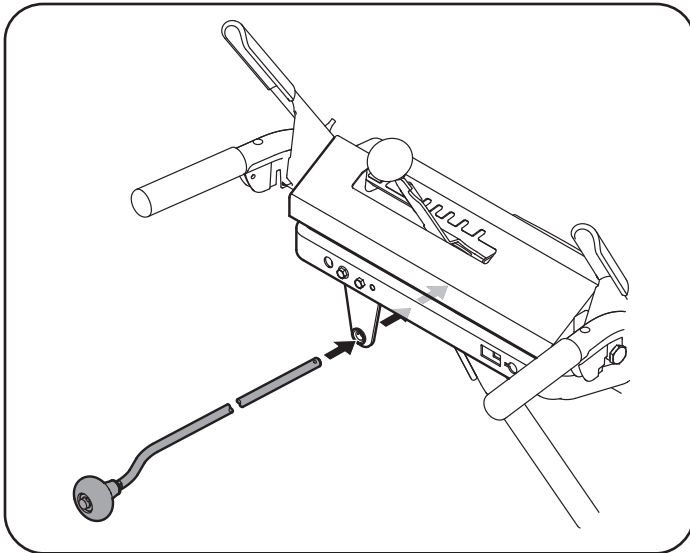

Figure 16
4. Insert chute control rod into the support bracket on rear of the dash panel. See Figure 16.